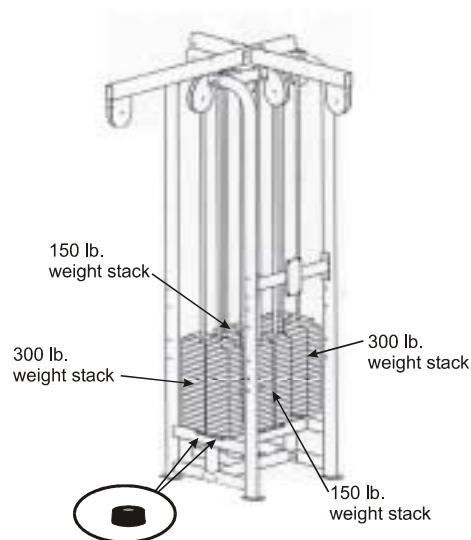

Figure 9. Mount the weight stacks.
- C. **Prepare the weight stacks.** Slide the guide rods (2) through the weight stacks (1) as shown above. Place rubber bumpers (3) on the bottoms of each guide rod. Make sure the pull pin (4) is in the bottom weight plate.
- E. **Set the weight stacks onto the machine.** Using a piano dolly, lift the weight stacks over the bottom plate and set the stacks onto the rubber bumpers with the plate numbers facing outward. The 300 lb weight stacks need to be facing the "sides" of the cells (where the benches will be attached- number 8 in Figure 9). The 190 lb weight stacks will need to be facing the "outsides" and "insides" of the cells (where the tricep pulley adjustable pulleys will be attached- number 9 in Figure 9). Make sure all pull pins are facing outward.